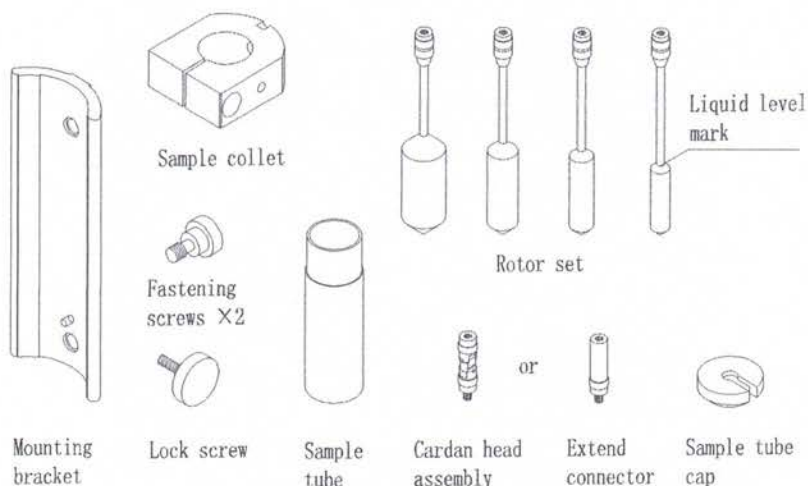

Fig. 8
1) As shown in Fig.8, a complete set of rotors includes the following components.